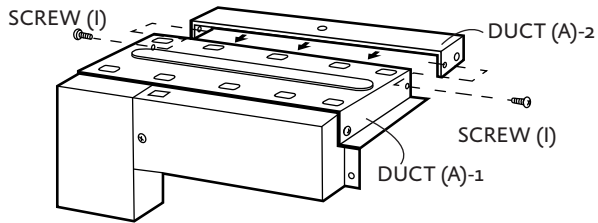

Figure 4
C. Position DUCT (A)-2 on the top of the oven and insert it into the hold lip of DUCT (A)-1. Secure DUCT (A)-2 to DUCT (A)-1 using two SCREWS (I) provided. See Figure 4.